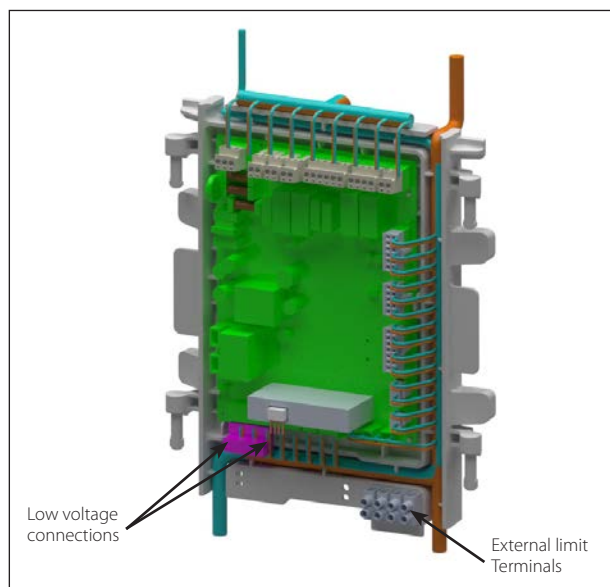

Fig. 33 - Low Voltage Connections
1. Connect the DHW aquastat or temperature sensor wires to low voltage terminals X4-1&2 located at the bottom of the CTRLMax control module as shown in **Fig. 33 on page 49**.
3. Connect the external limit wires to the Manual Reset Limit or Auto Reset Limit low voltage terminals located on the lower right corner of the CTRLMax control module housing as shown in *Fig. 33 on page 49*.
1. Connect the system temperature sensor wires to low voltage terminals X5-3&4 located at the bottom of the CTRLMax control module as shown in *Fig. 33 on page 49*.